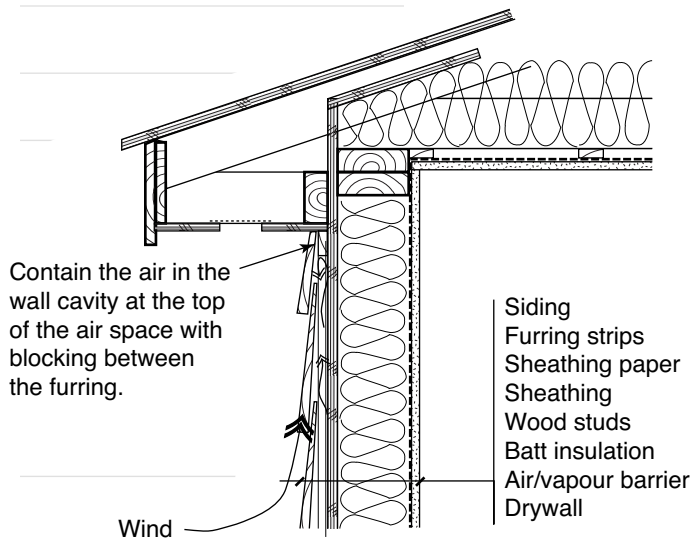

FIGURE 6
- ◆ The air space behind the cladding must be contained at the top of the wall and at corners to maintain pressure equalization (see Figure 6).